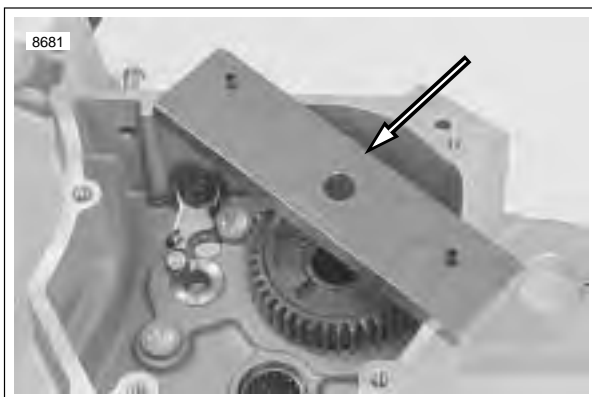

Figure 6-68. Bearing Remover Cross Plate Mounting (Part No. B-45847)
4. Obtain MAIN DRIVE GEAR REMOVER AND INSTALLER SET. See Figure 6-68. Place CROSS PLATE on right crankcase as shown. Position cross plate so that roll pins fit into crankcase mating screw holes and bolt hole in cross plate is centered over main drive gear.
2. See Figure 6-68. From inside crankcase, position BEARING DRIVER (Part No. HD-035316-9) over main drive gear bearing.